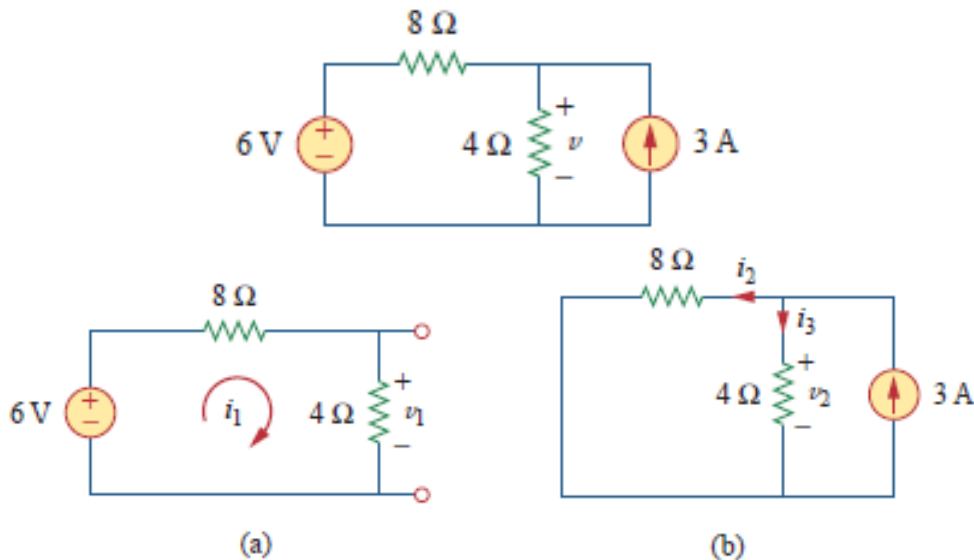

Fig. 2.11: Superposition circuits
**Example 2.6:** Use the superposition theorem to find  $v$  in the circuit of figure 2.11.